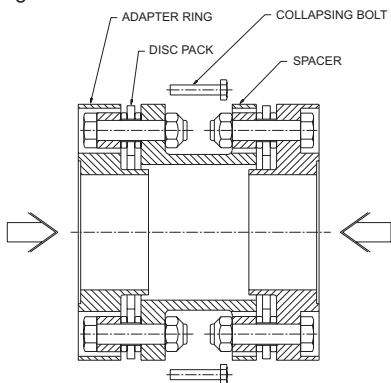

Figure 4. Collapsing center section
4.2 For each side of the center section, insert the collapsing bolts through the spacer clearance holes into tapped holes in the ring (see Figure 4).